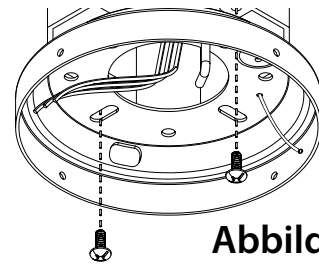

Abbildung 1.
- Pass the electrical wires from the ceiling through the ceiling mount center hole as shown in Figure 1.